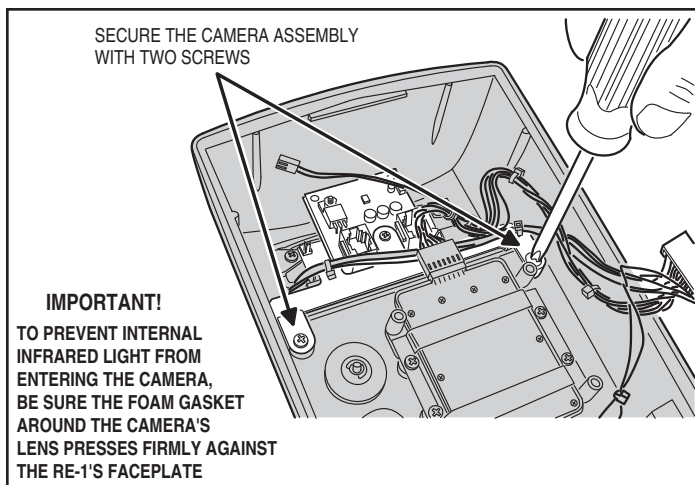

Figure 24. Mounting the Camera in the RE-1
2. Mount the camera assembly into the RE-1 case. Secure the camera with the two screws provided (see Figure 24).